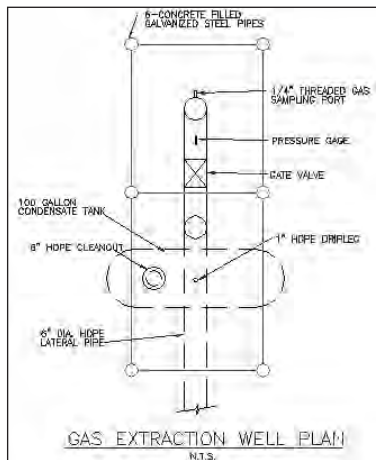

Figure 11-14: The completed drawing
13. Save your drawing. It should look like Figure 11-14.